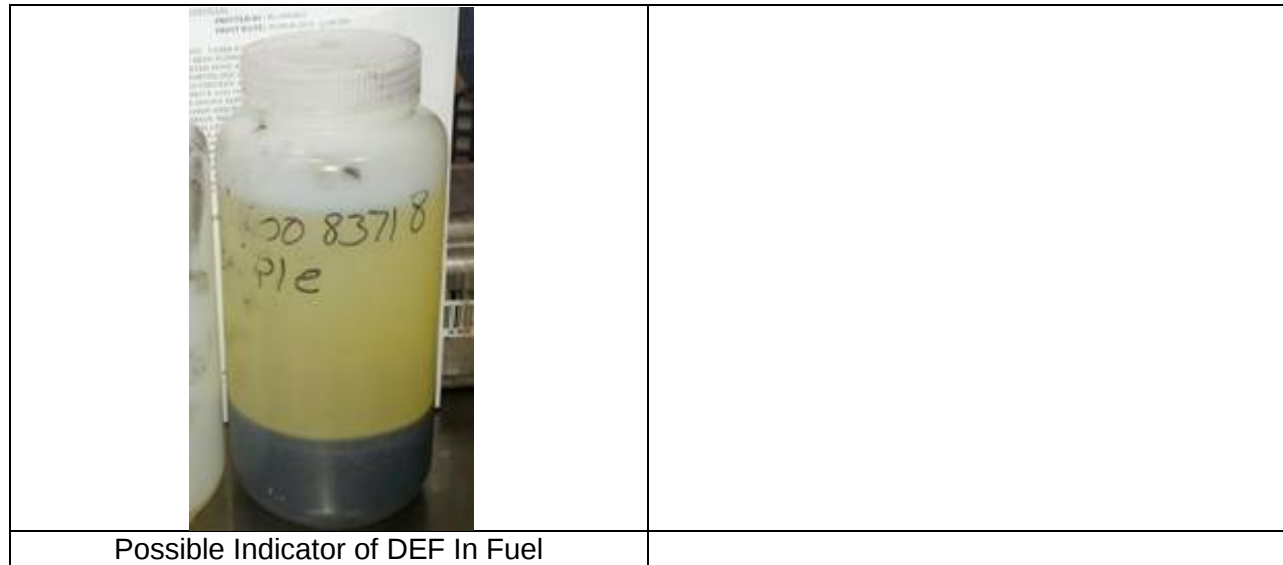

Figure 3 – Fuel Samples
9. Inspect the fuel sample that was drained from the water bowl. DEF and water are heavier than fuel and will settle to the bottom of the sample. It is possible a small amount of water and sediment will be in the sample. See Figure 3.